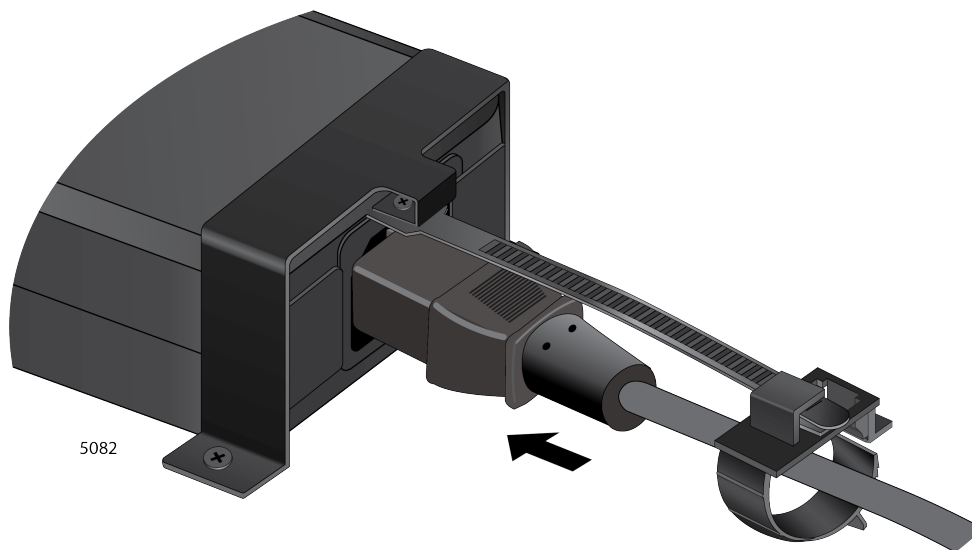

Figure 18. Connecting the Cable Tie and Clamp
3. Connect the power cord to the power adapter, then slide the pointy edge of the cable tie into the opening on the clamp as shown in Figure 18 on page 30.